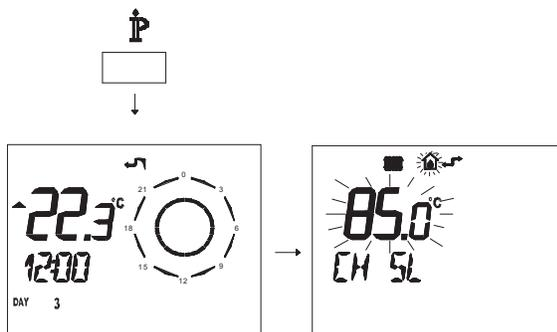

Fig. 7.32
- Press button **IP** for more than 3 seconds to enter in **INFO** mode (Fig. 7.32).